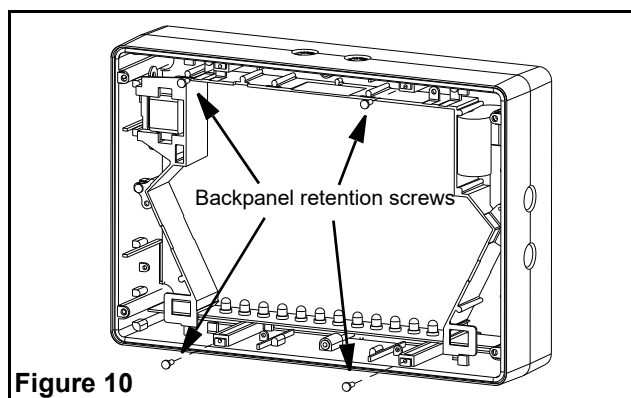

Figure 10
3. Install the four backpanel retention screws (see fig. 10).